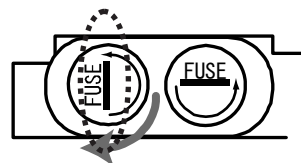

Fig.7-5
6. When installing fuse holder, use a flat-blade screw driver. When pushing the fuse, keep the fuse holder slit to be vertical to the amplifier unit (Figure 7-5, dotted line), and then press deeply and turn clockwise by 90 degree.